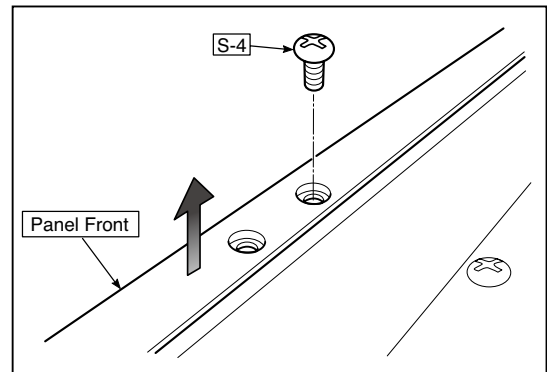

Fig.24
### 11) Remove the Panel Upper. (See Fig. 24)
1. Remove the "S-4" screws shown in the figure 24 and then remove the Panel Front.